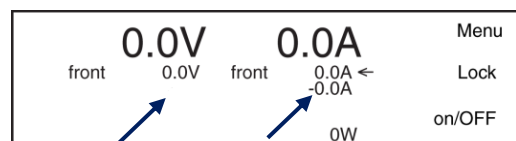

Figure 7.14: The second line shows the set value for voltage and for source current and sink current (with a minus sign).
- Check if the unit is in local operation: the text before the set values on the 2nd line must be 'front'. See Figure 7.14.